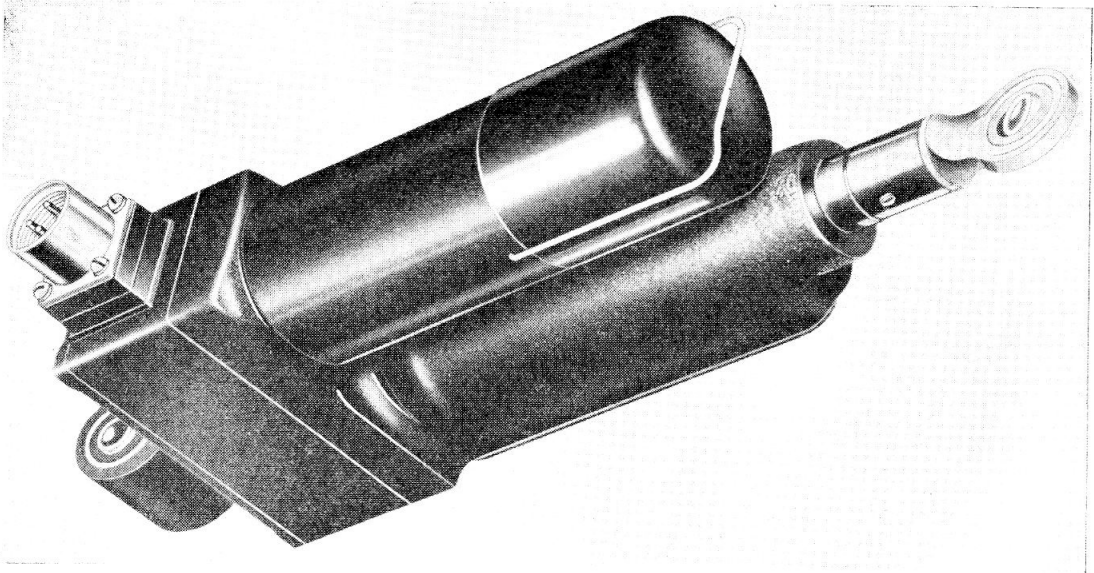
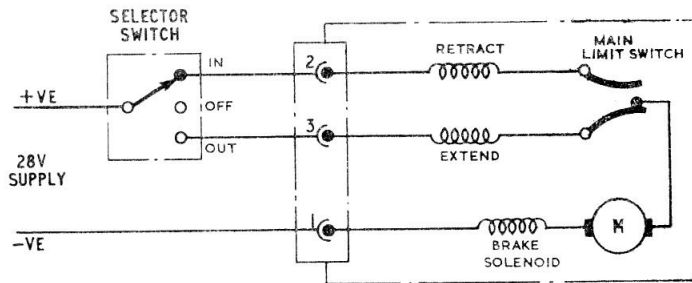

Fig. 1. Typical actuator, A0200 series
Fig. 3. Typical circuit diagram
1. Rotax linear actuators of the A0200 series follow the general design described in this chapter; a typical actuator is illustrated in fig. 1 and 2, and its circuit diagram is given in fig. 3. Specific details of individual actuators will be found in appendices to this chapter.